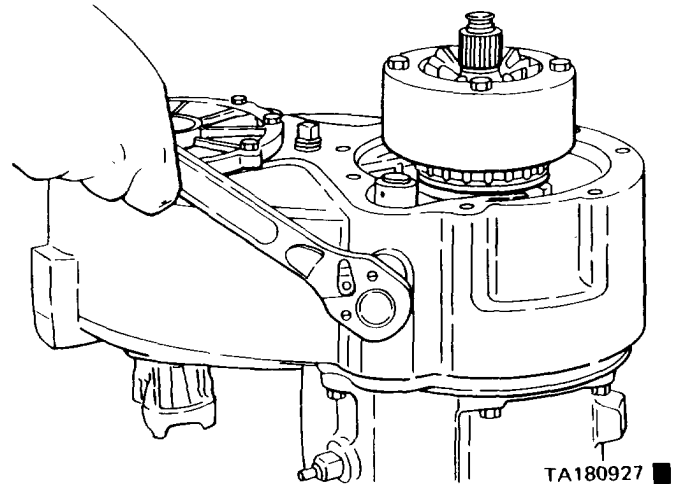

Figure 17-6. Removing Detent Ball Plug.
(9) Remove the shift rail detent ball plug, gasket, spring, and ball from the case (figure 17-6). A small magnet may be used to remove the ball.
(10) Push the Shift rail down, and lift it up on the lockout clutch. Remove the shift fork from the clutch assembly.
(11) Remove the front output shaft rear bearing retainer bolts. Tap on the front of the shaft or carefully pry the retainer away from the case. Remove the retainer from the shaft and discard the gasket. Recover any roller bearings